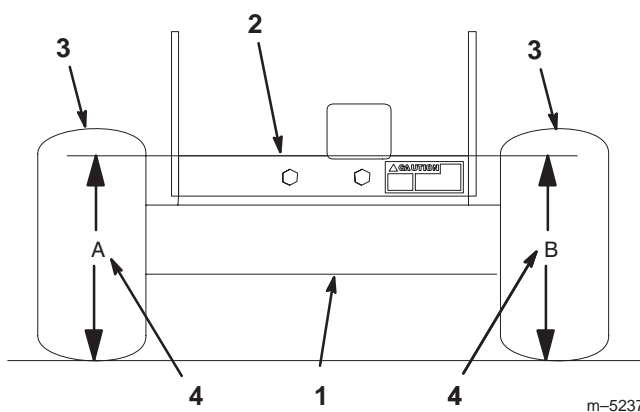

Figure 46
3. Measure engine deck height at location “A” (Fig. 46).
4. Measure engine deck height at location “B” (Fig. 46).